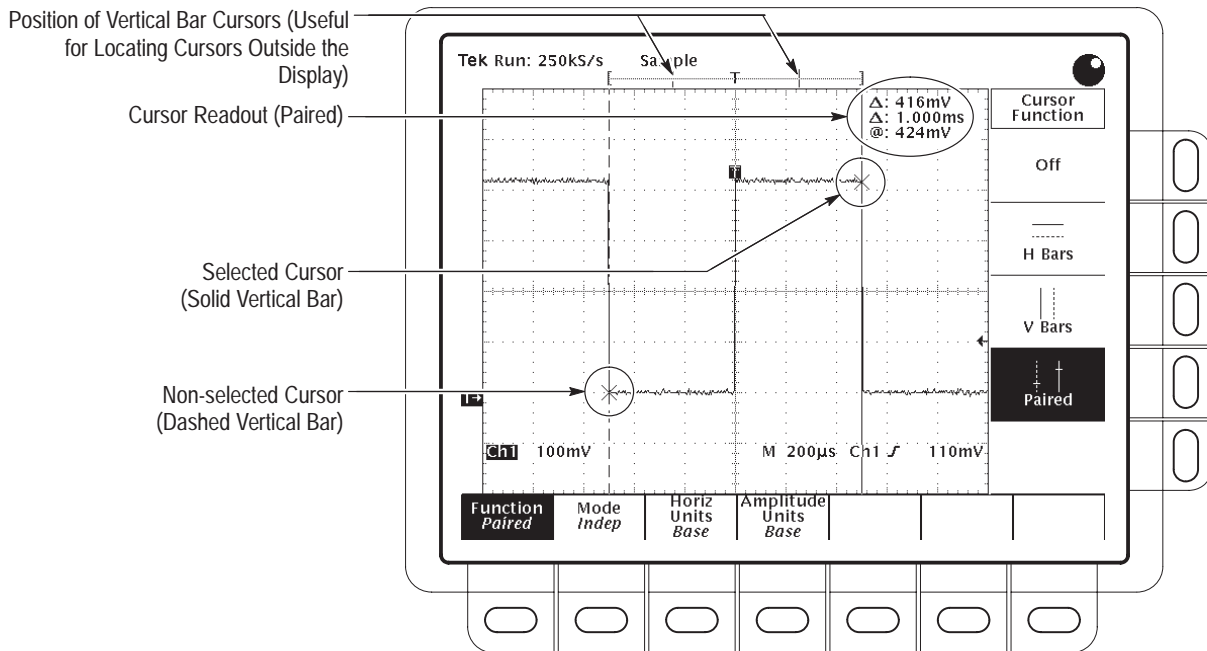

Figure 3-65: Paired Cursor Menu and Readouts
**Paired.** The value after one  $\Delta$  shows the voltage difference between the two Xs; the other  $\Delta$  shows the time (or frequency) difference between the two long vertical bars. The value after the @ shows the voltage at the X of the selected cursor relative to ground (see Figure 3-65).